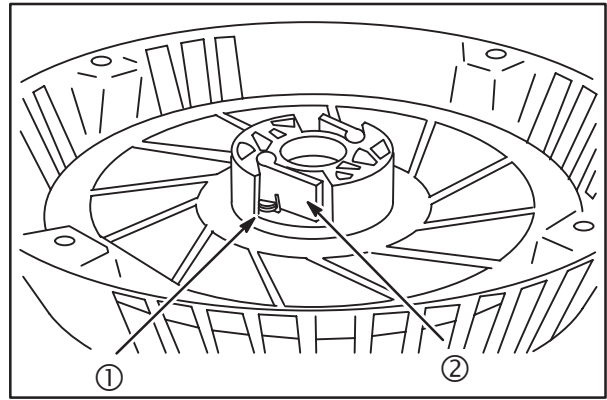

Fig. 72
1. Install dogs (2) and dog springs (1) in pulley, **Fig. 72**.